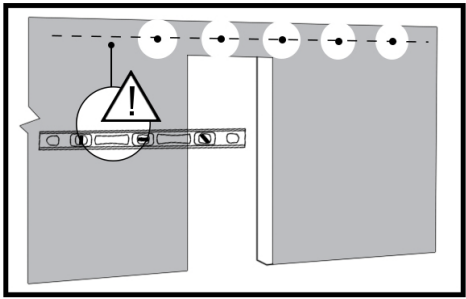

FIGURE 9
- Place the track in position using the marks made in the previous step, ensure the track is level. Using the track as a template, mark the mounting hole locations with a pencil (see FIGURE 9).